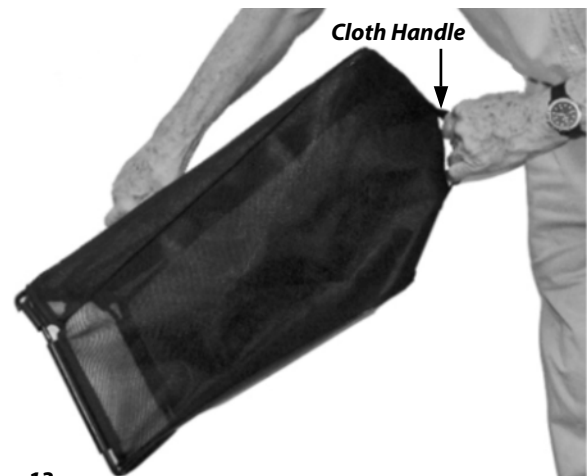

Figure 13
4. To empty the Bagger, tilt the Top Handle forward. Use the Cloth Handle (**Figure 13**) at the rear of the Bagger to move the contents toward the front as you empty the Bagger.